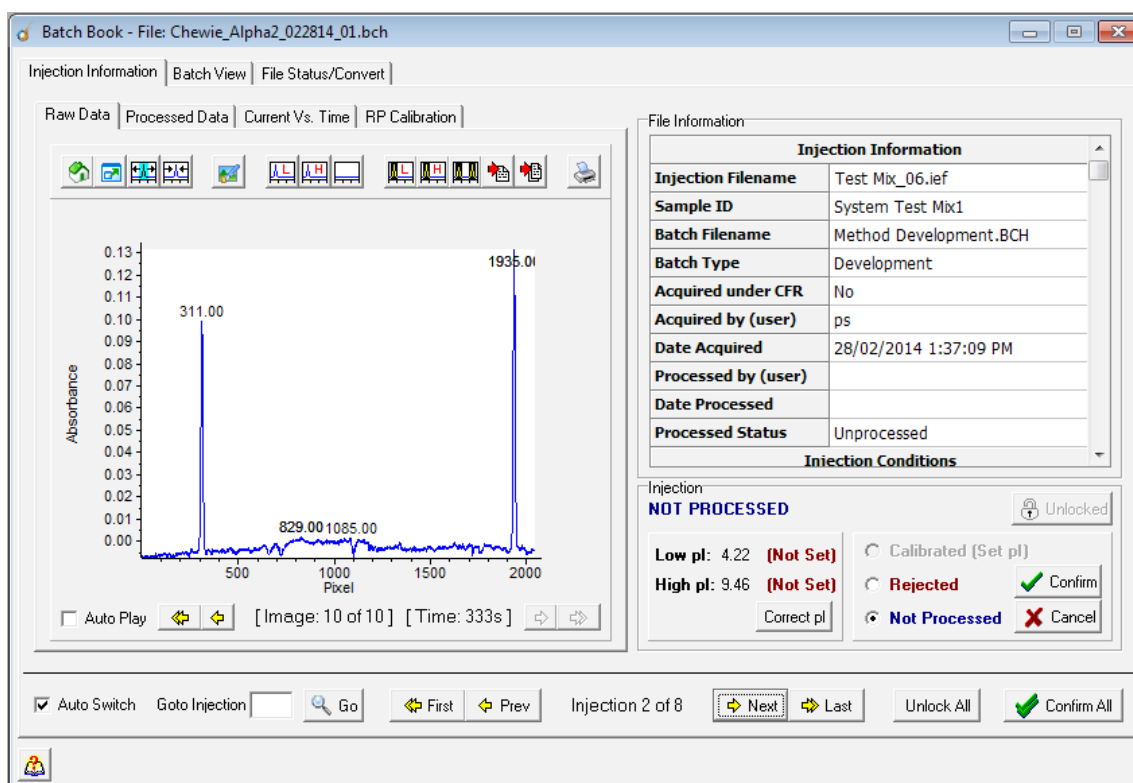

FIGURE 3. Acceptable results for System Test Mix.
4.22 and 9.46 pl markers as shown in Figure 3. The height of the 9.46 pl marker should be between 0.05 and 0.15 absorbance units. The position of the pl 9.46 marker (basic marker) should be within the range of 1800 and 2000 pixels. If you don't see any peaks or only see a single peak, please contact Technical Support at support@proteinsimple.com.